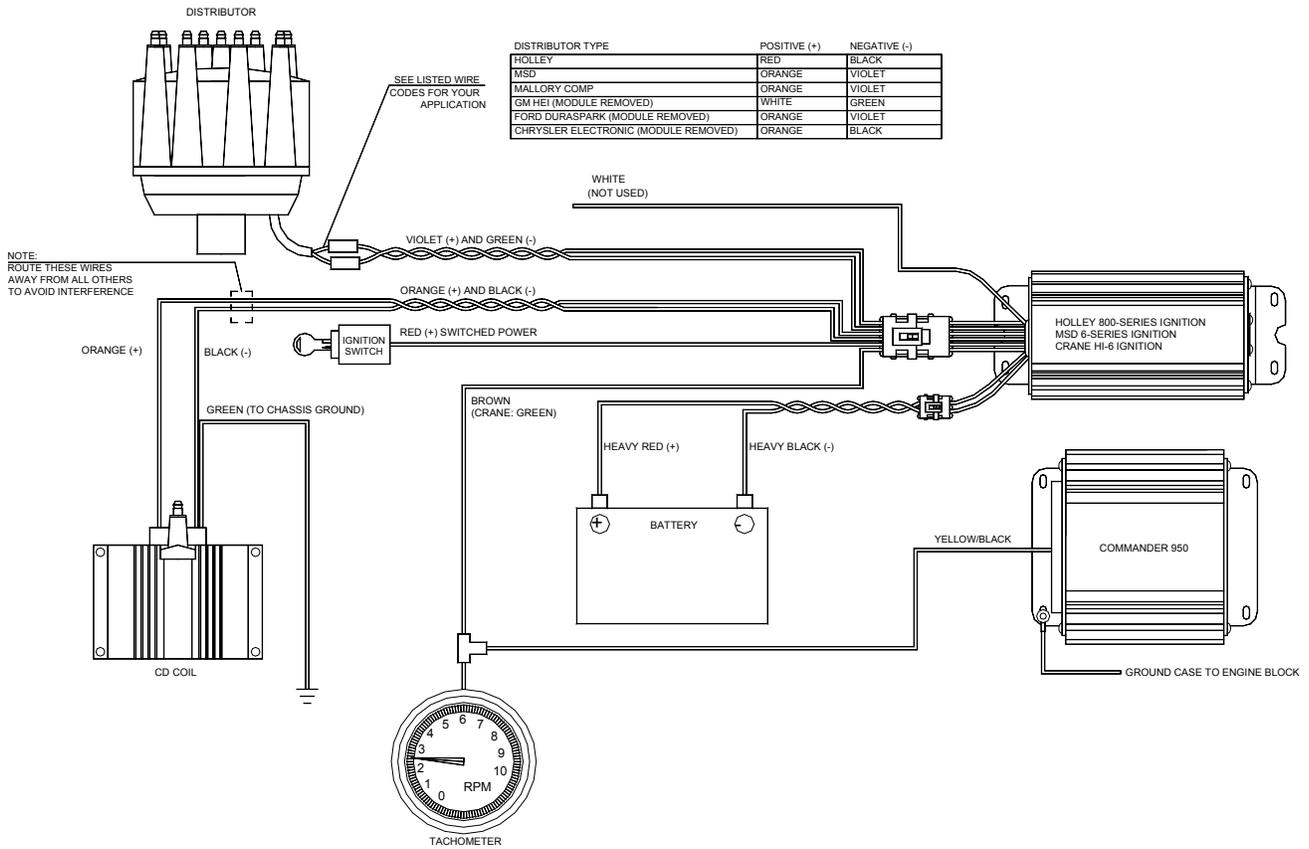

Figure 82
- Figure 82:** Commander 950 PRO to Aftermarket Ignition Using Magnetic Pick-up Distributor.